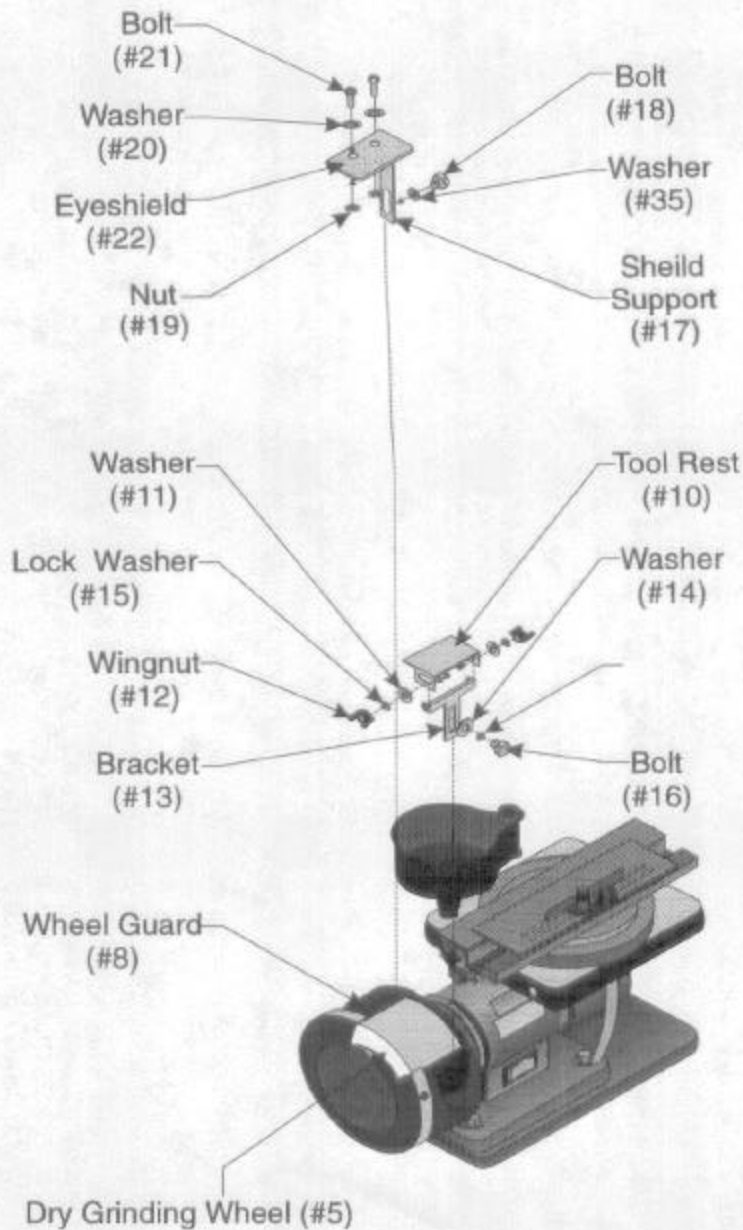

Figure 2 -- Assembly of Tool Rest
Step 1: Place the BRACKET (#13) onto the TOOL REST (#10) and secure using both WINGNUTS (#12), LOCK WASHERS (#15), WASHERS (#11). Assemble as shown in Figure 2.